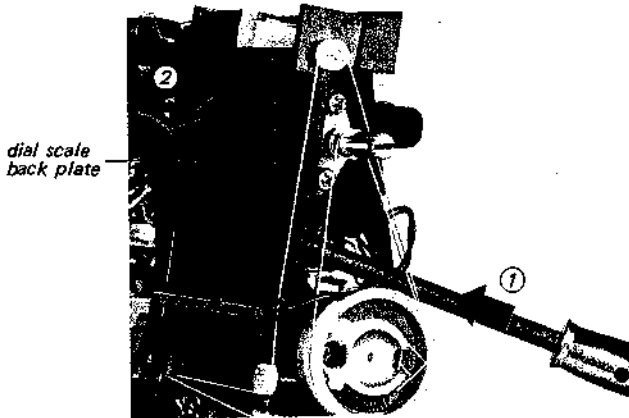

Fig. 2-7.
6. Push the dial scale back plate by a stick as shown in Fig. 2-7 and remove the back plate.